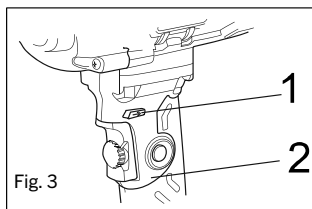

Fig. 3
The forward/reverse switch (1) is conveniently mounted immediately above the trigger switch on the drill handle (2) (Fig. 3). To make the drill rotate clockwise for drilling, push the forward/ reverse switch to the left. To make the drill rotate counter-clockwise, push the forward/reverse switch to the right.